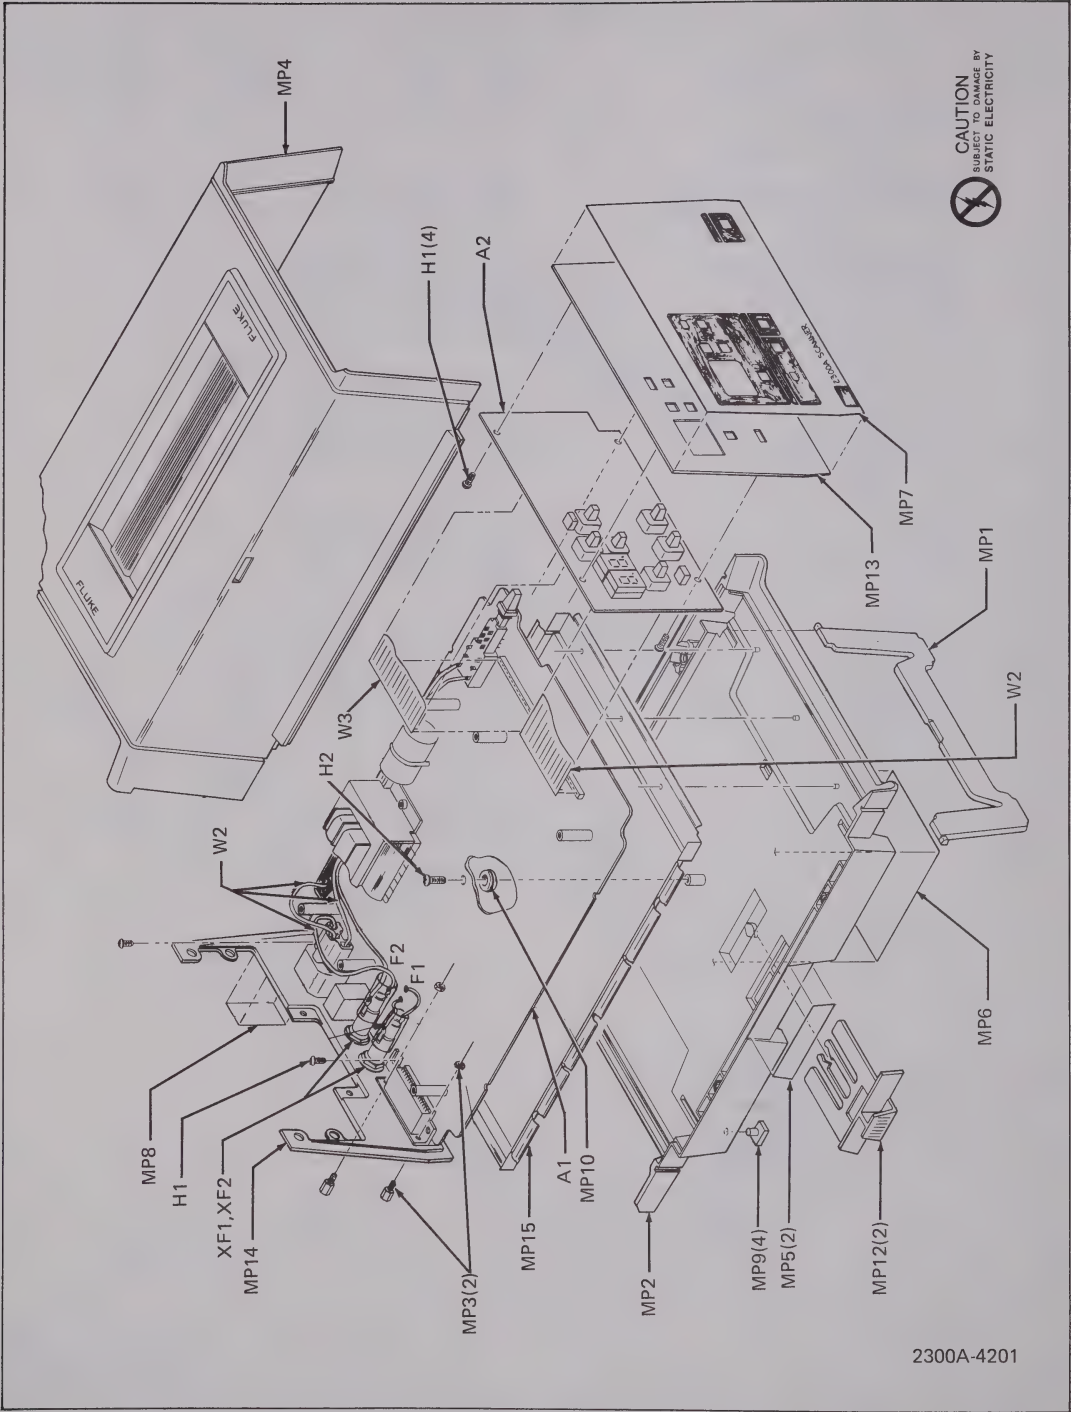

Figure 5-2. 2300A Chassis Assembly
|            | ② CHASSIS ASSEMBLYFIGURE 5-2 (2300A-4201) |                       |                     |                         |            |            | REF              |